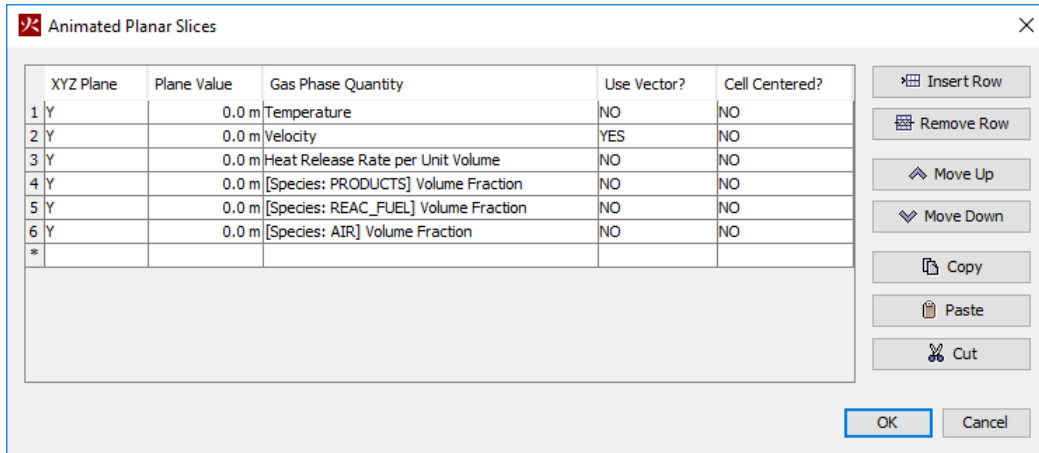

Figure 5: Defining the slice plane plots.
11. Repeat so that you are plotting the Volume Fraction of **AIR**, **PRODUCTS**, and **REAC_FUEL**. See Figure 5. These plots will show us where the reaction is occurring. Air is supplied from the open boundaries, fuel is supplied by the fire surface, and products are the result of combustion.